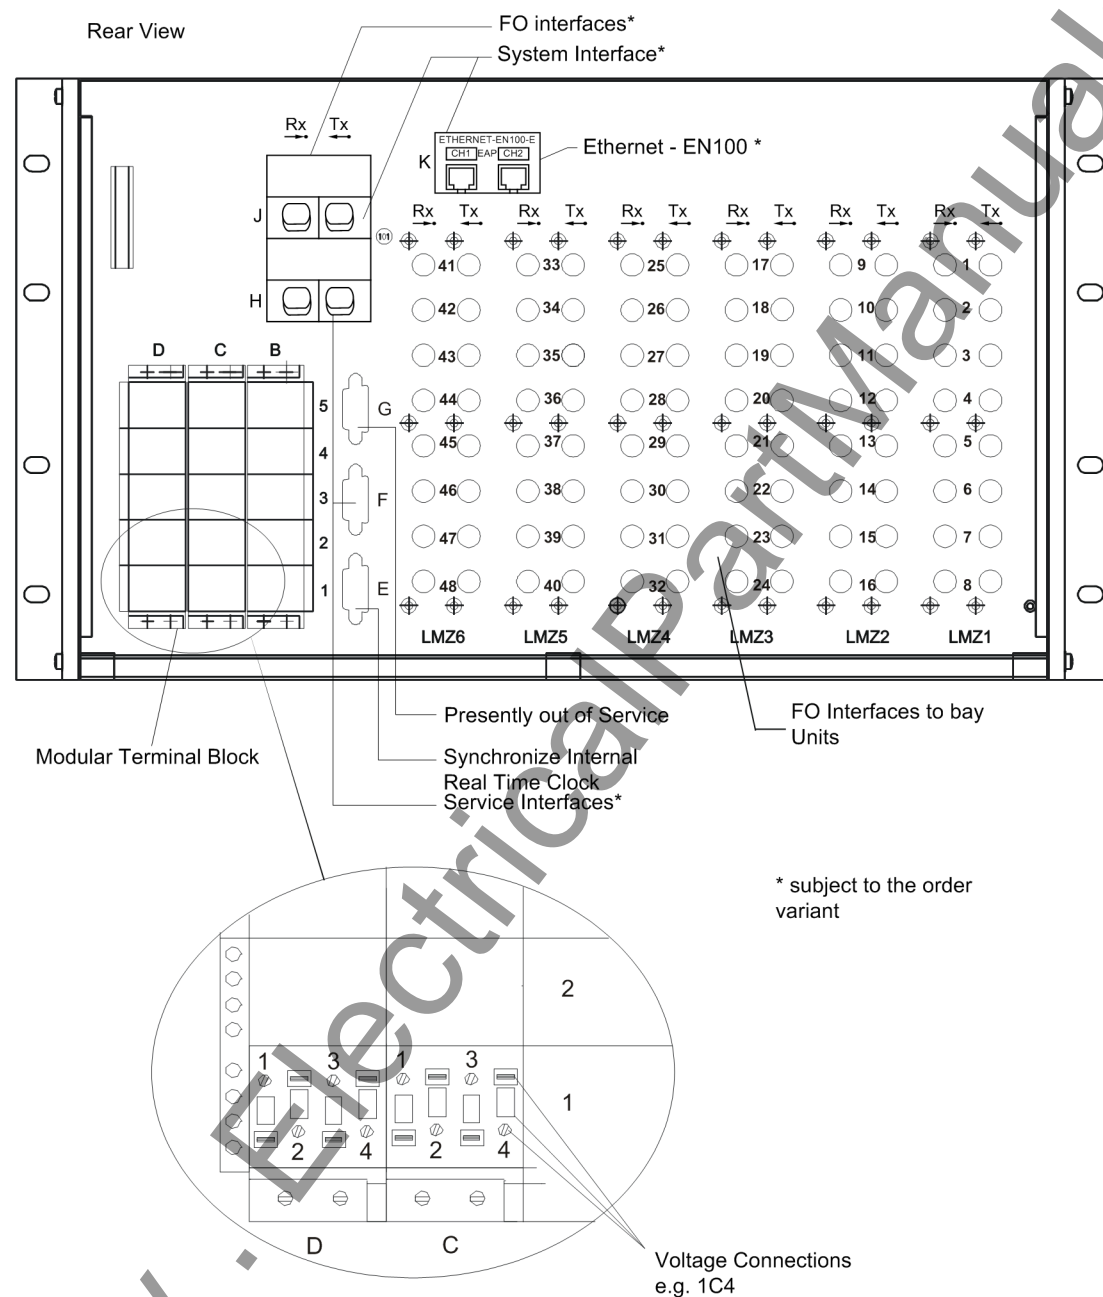

Figure 2-6 Device connections on central unit
On the rear side of the central unit, terminal blocks are provided for the external electrical connection of the power supply module (SV), the I/O module (EAZ) and the communication module (D-CPU). For each electrical connection point, there is one screw-type and one snap-in connector for the station wiring. The terminal blocks are identified according to their position in a coordinate system. The connections inside a block are numbered from left to right, see the example in Figure 2-6, page 22.
Central unit	Depending on the variant ordered, the service and the system port on the rear of the central unit may have additional fiber-optic connections (Figure 2-6, page 22). Moreover, the central unit is connected with the bay units by fiber-optic cables. The bay unit connectors are located on the back of the central unit (Figure 2-6, page 22).